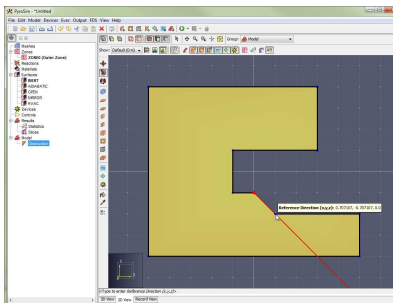

Figure 94. Define reference vector
4. Single-click another point to define a **reference vector** from the first point to the second point (Figure 94). This **reference vector** is what the angle is based from.